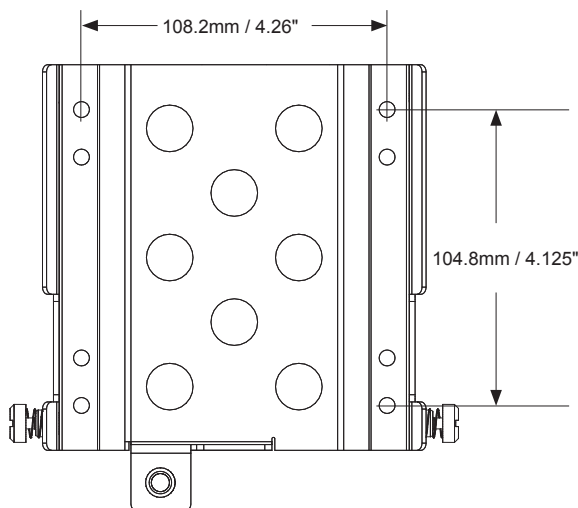

Fig. 1, Mounting hole dimensions
3. Level the bottom plate of the mounting bracket and use the center punch to mark the location of the four mounting holes (see Fig. 1).